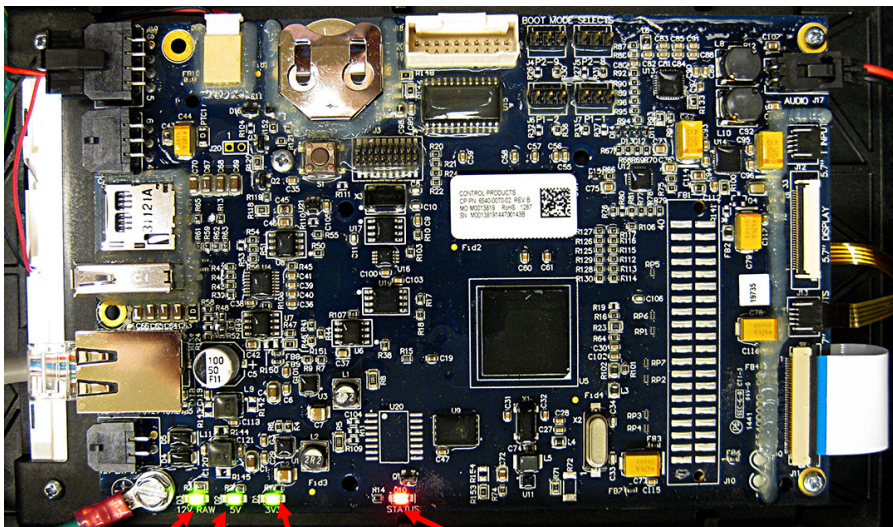

Figure 7
To verify that the FQ4000 has power and the touch screen is functional, remove the 2 screws attaching the controller to the bezel. Lower the controller to view the LED's on the rear of the controller board. Verify that the three (3) green LED's are illuminated which indicate that 3V, 5V and 12V power is present on the controller. These should be illuminated at all times. Pressing anywhere on the front of the touch screen will illuminate the red LED STATUS (see Figure 7). The red LED will also illuminate momentarily during power up.